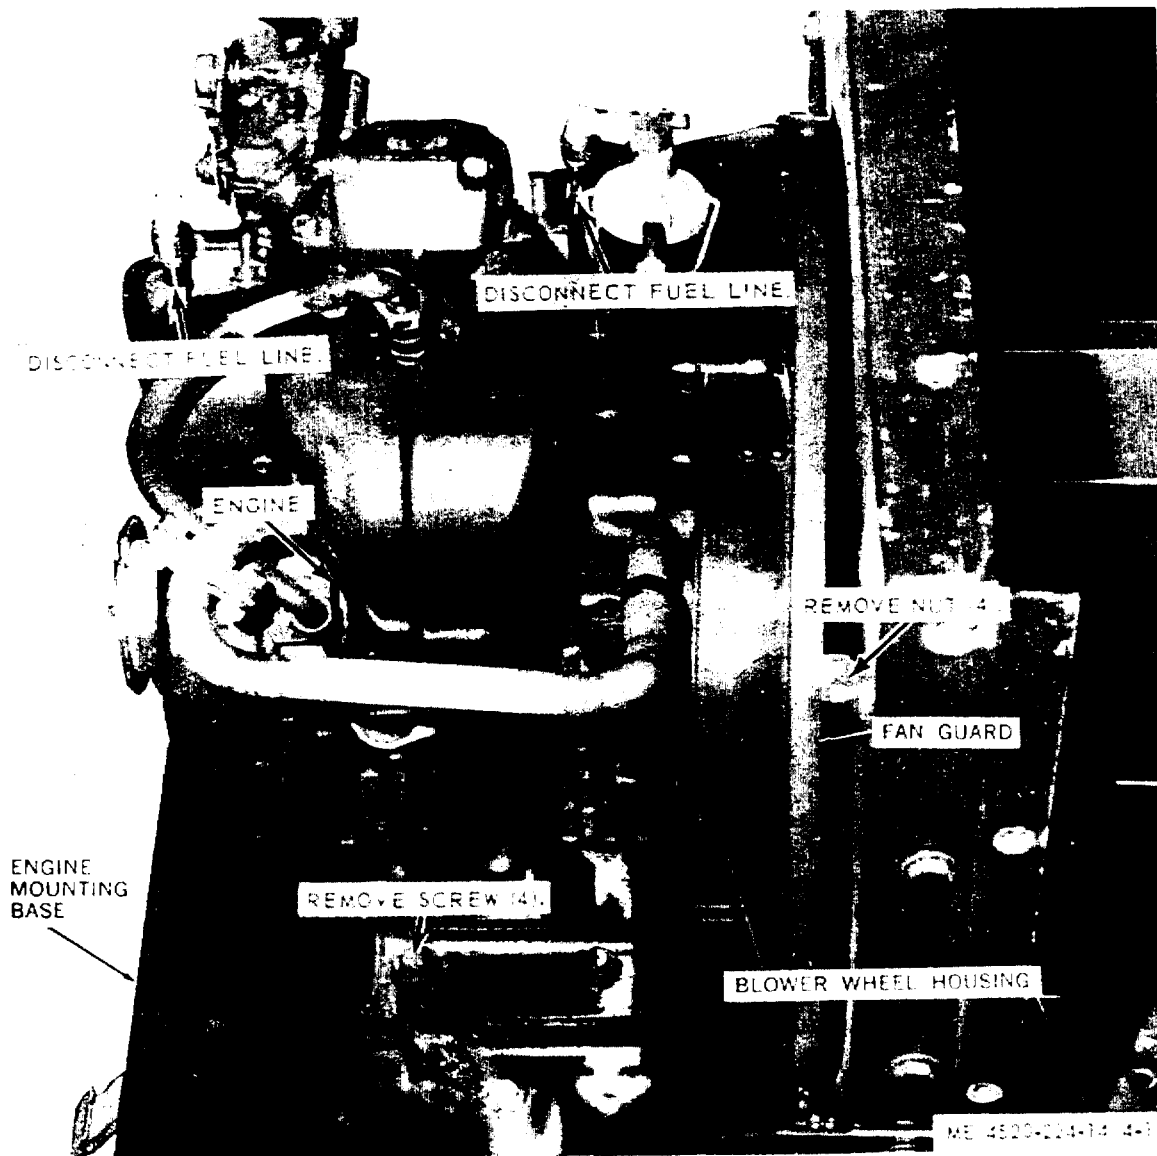

Figure 4-1. Engine, removal and installation.
- (1) Unscrew the 2 flexible fuel lines. (fig. 4-1)
- (2) Remove the 4 self-locking nuts which hold the fan guard to the heater. (fig. 4-1)
- (5) Loosen the fan guard from the studs. (fig. 4-1)
- (6) Remove the engine with mounting base, fan, guard, blower wheel and blower wheel housing attached. (fig. 4-1)
(1) Remove the engine assembly per paragraph 4-15.
(2) Refer to figure 4-1 and remove the 4 screws, 4 nuts and 4 washers holding the engine support